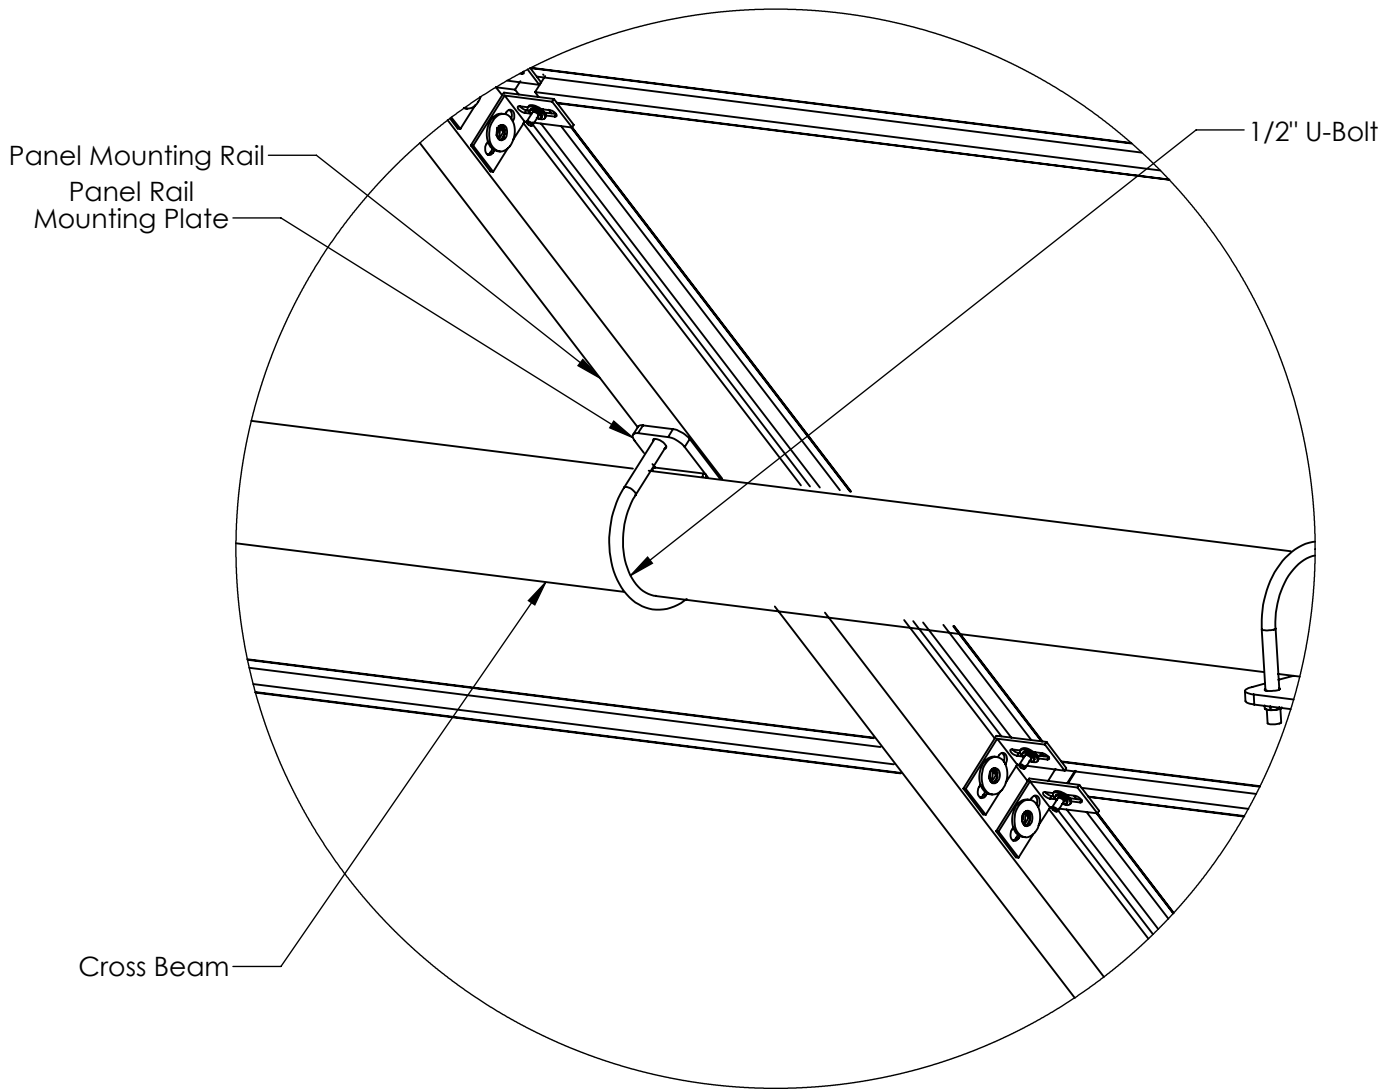

Figure 6
2. Couple the Cross Beams together with the supplied Cross Beam Couplers (Fig. 6)